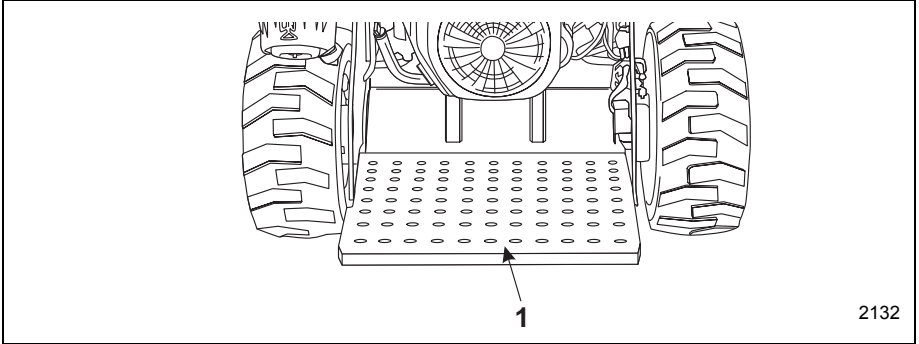

Figure 3-7 Operator's Platform and Safety Treadle
1. Stand on the operator's platform (Item 1, Figure 3-7).